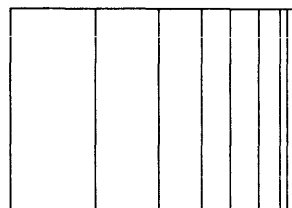

Fig.11
**k) Red gradations (Fig.11)**